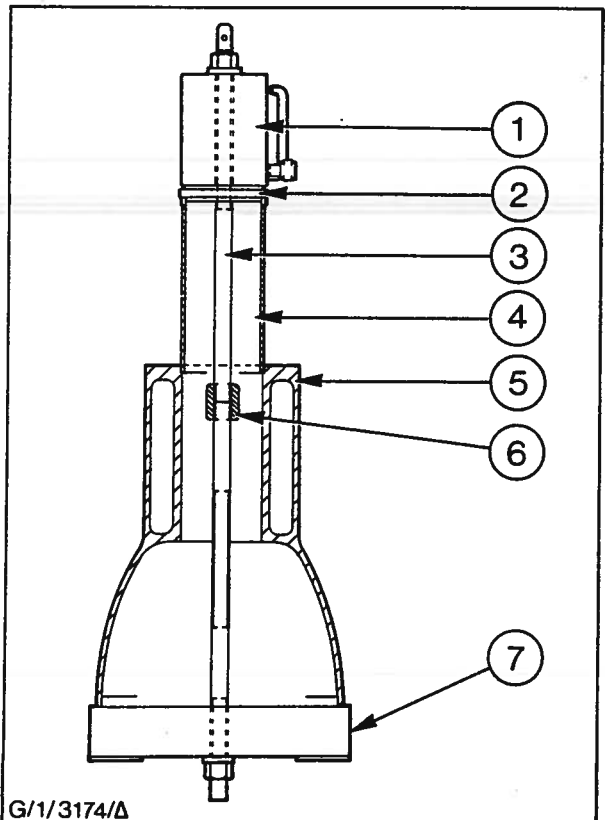

Fig. 40 - Fitting Cylinder Liner
13. Assemble the two long pull rods together using the pull rod coupler, and assemble the cross beam with a nut and washer to the lower end. Pass the assembly through the cylinder bore and liner locating the cross beam across the bottom face of the crankcase - see Fig. 40.